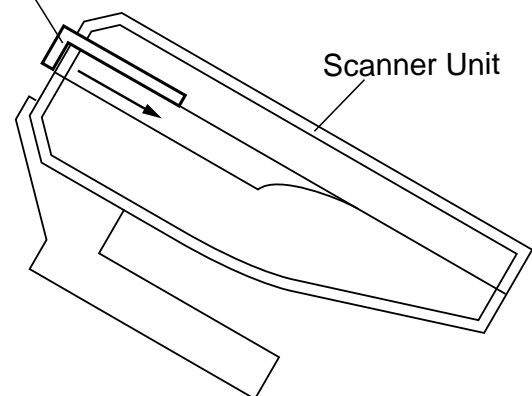

Fig. 3
- 2) Use the optical adjustment tool by pressing it in the arrow direction. If it is floated, the proper adjustment is impossible. (Fig. 3)